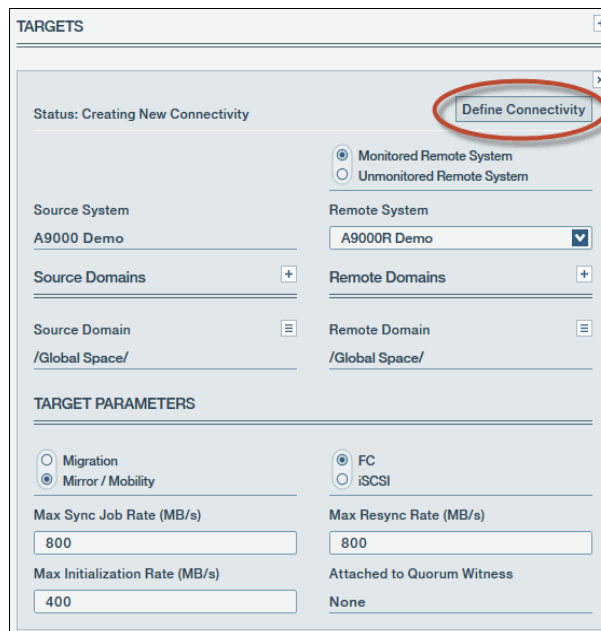

Figure 3-21 Define connectivity
5. As shown in Figure 3-21, define connections by clicking **Define Connectivity** in the Targets window to open the detail window.